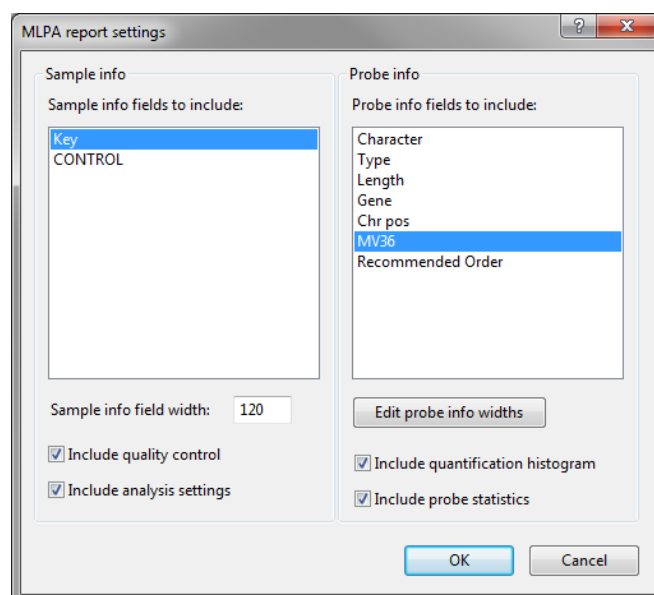

Figure 4.14: The *MLPA report settings* dialog box.
The first time this command is executed for a given MLPA experiment type, the *MLPA report settings* dialog box appears (see Figure 4.14).
9.4 To make any modification to the report settings, select **Report > Settings**. This will call the *MLPA report settings* dialog box again (see Figure 4.14).